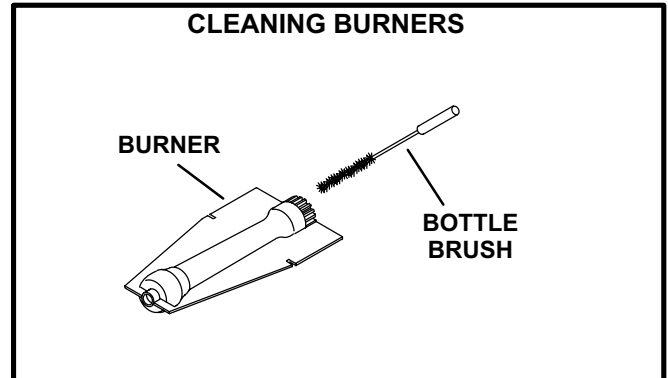

FIGURE 5
- 5 - Clean the inside of each burner with a bottle brush as shown in figure 5.